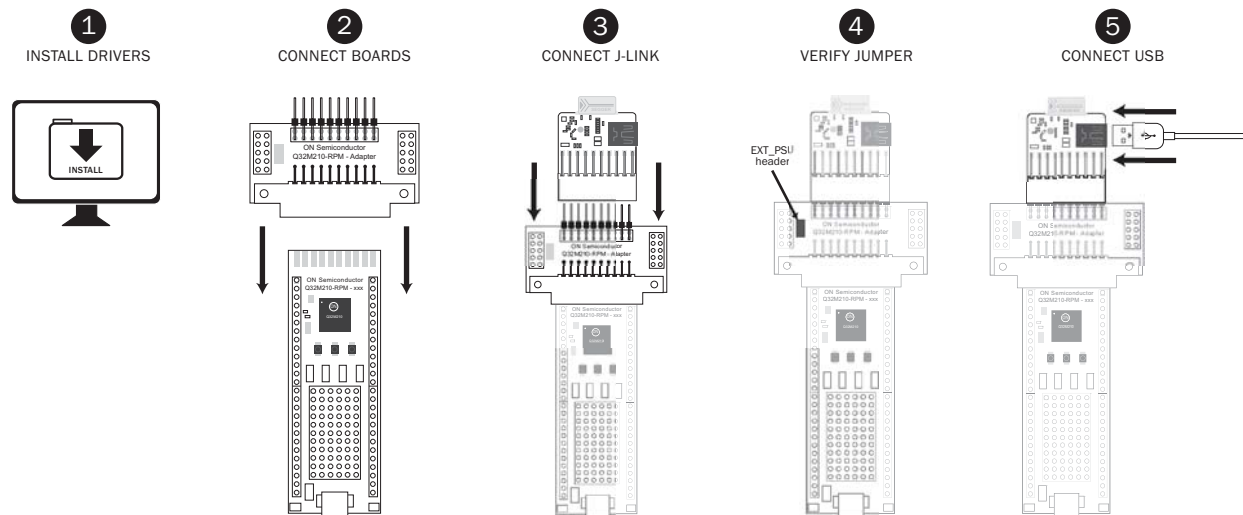

Figure 1: Connecting the Adaptor to the J-Link Lite Debugger
To download or debug firmware on the RPM, you must use the JTAG interface on the Q32M210 microcontroller. The edge connector makes the JTAG interface available. The RPM-JTAG Adaptor Board allows the RPM to be interfaced with the standard 20-pin JTAG connector that is supported by many JTAG adaptor manufacturers. The SEGGER J-Link and J-Link Lite are supported by ON Semiconductor and the J-Link Lite is included in the full RPM kit. Figure 1 below shows the RPM, RPM-JTAG Adaptor Board, and J-Link Lite connected together. The following steps describe the use of the J-Link Lite. Using a standard J-Link is very similar in setup and operation.
3. Connect the J-Link Lite to the 20-pin connector on the RPM-JTAG Adaptor Board. Ensure that the J-Link Lite has the same orientation as shown in Figure 1.